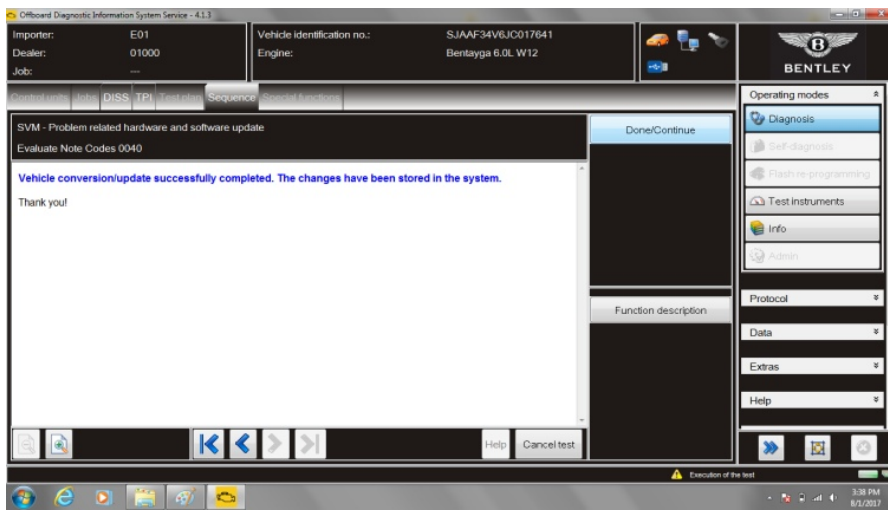

Figure 6
15. Select Done Continue at successfully completed screen (see Figure 6)